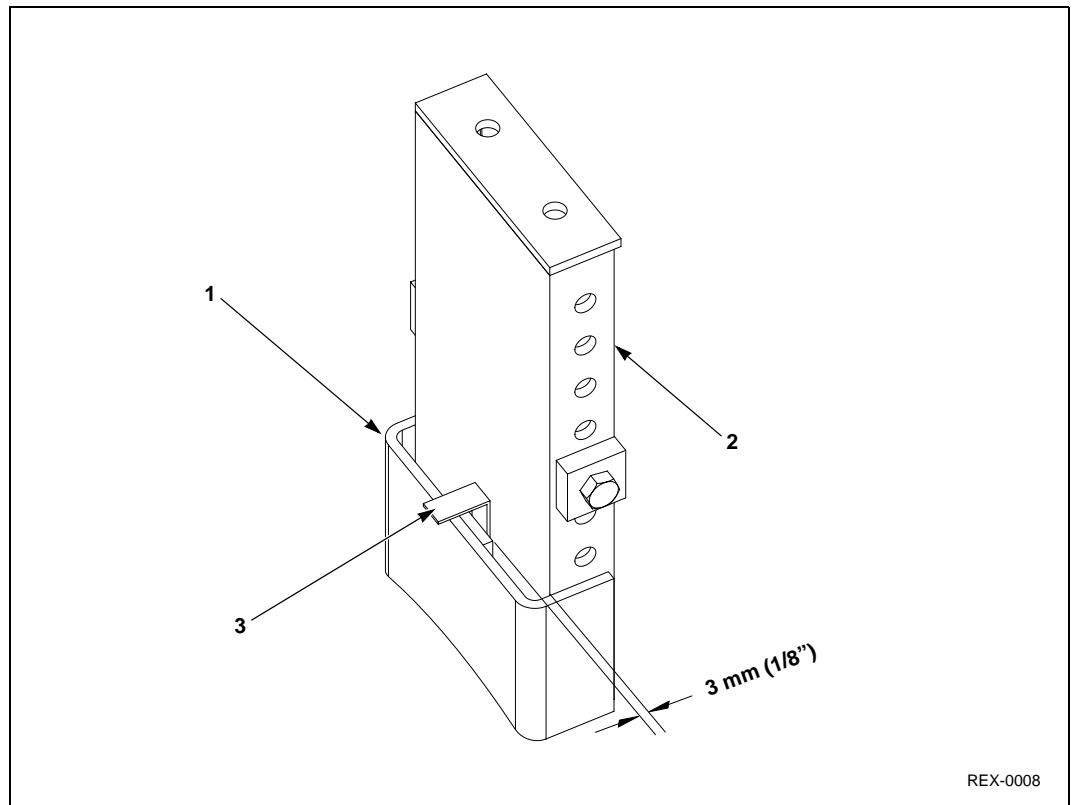

Figure 4-12: Insertion of Shim Between Take-up and Guide
4. Place 3 mm (1/8") thick shims between the take-up frame and take-up guides at top and bottom ends of the take-up assembly. See Figure 4-12.